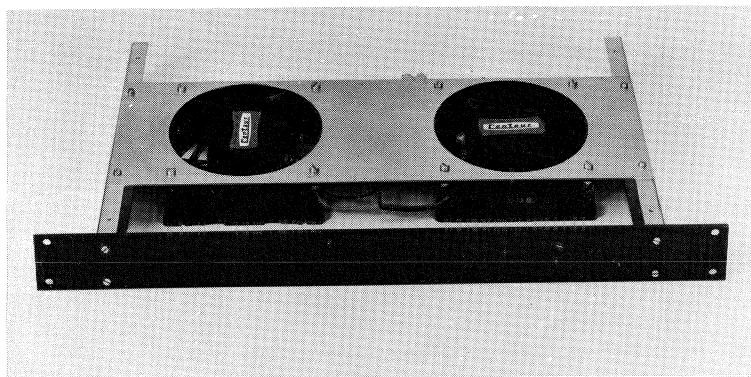

Fig. 5-4 Ventilation unit (PE 1373 mounted with 2 PE 1374)
2. Forced circulation (see fig. 5-4)